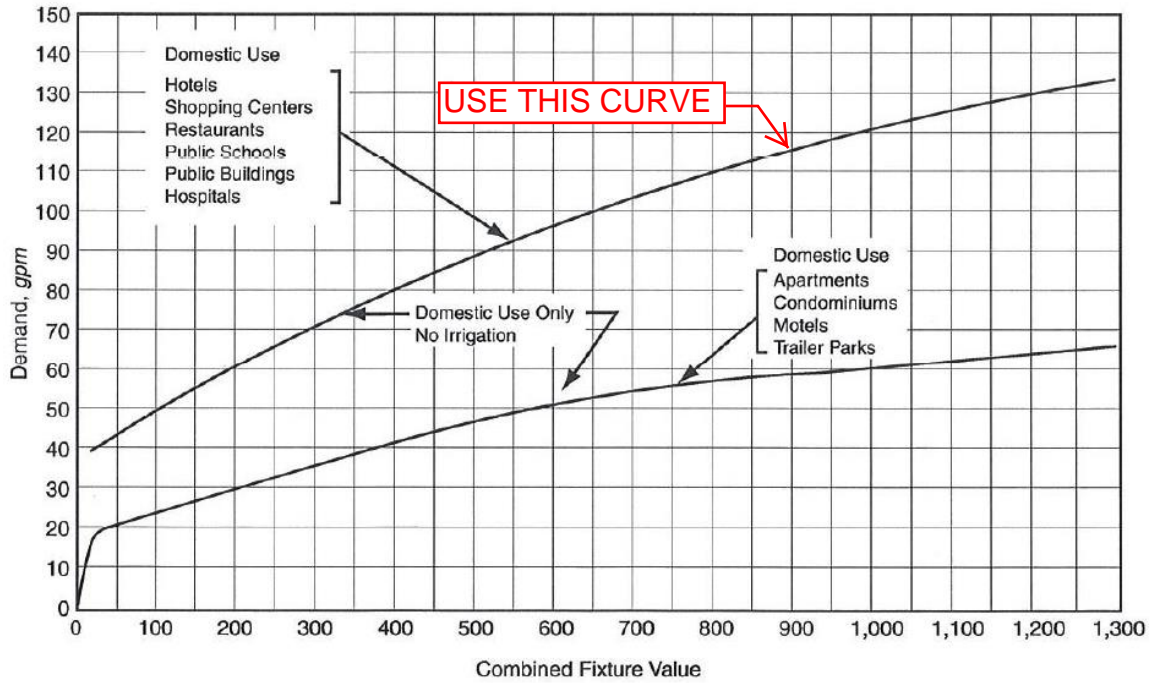

Figure 4-2 Water flow demand per fixture value—low range
(4) **Peak Demand** (using top curve in Figure 4-2 or 4-3) _____ gpm
- (1) **No. of Fixtures:** Input the total number of fixtures corresponding to each Fixture Type.
- (2) **Total Fixture Value:** For each Fixture Type, multiply the corresponding Fixture Value at 60 psi by (1) No. of Fixtures.
- (3) **Combined Fixture Total:** Sum (2) Total Fixture Value for each Fixture Type.
- (4) **Peak Demand:** use (3) Combined Fixture Total and the upper curve on AWWA M22 Figure 4.2 or 4.3 to determine Peak Demand. The District mandates the use of the upper figure curves for all Domestic Uses.
- (5) **Pressure Factor:** Adjust for pressure by multiplying 1.09 by (4) Peak Demand.
- (6) **Irrigation Demand:** The Irrigation Demand is 0 if a separate irrigation tap and meter are provided; otherwise include an irrigation demand equal to the demand of the largest irrigation zone.
- (7) **Miscellaneous Demand:** Include any applicable miscellaneous demands not accounted for that would impact the net demand such as car wash, chiller, fountain, or other uses.
- (8) **Total Fixed Demand:** Calculate the TFD by summing columns 5-7.
- (9) **Proposed Domestic Tap/Meter Size:** Fill in the appropriate domestic Meter Size based on the Maximum Allowable Total Fixed Demand in Table IV-7.
- (10) **Proposed Irrigation Tap/Meter Size:** Fill in the appropriate irrigation Meter Size based on the proposed irrigation demands and Maximum Allowable Total Fixed Demand in Table IV-7.
- (11) **Other:** Fill in and label any other applicable meters such as a secondary irrigation or car wash tap and meter.
Attachment: AWWA M22 Figures 4.2 and 4.3
WATER TAP AND METER SIZING – Figures 4-2 and 4-3